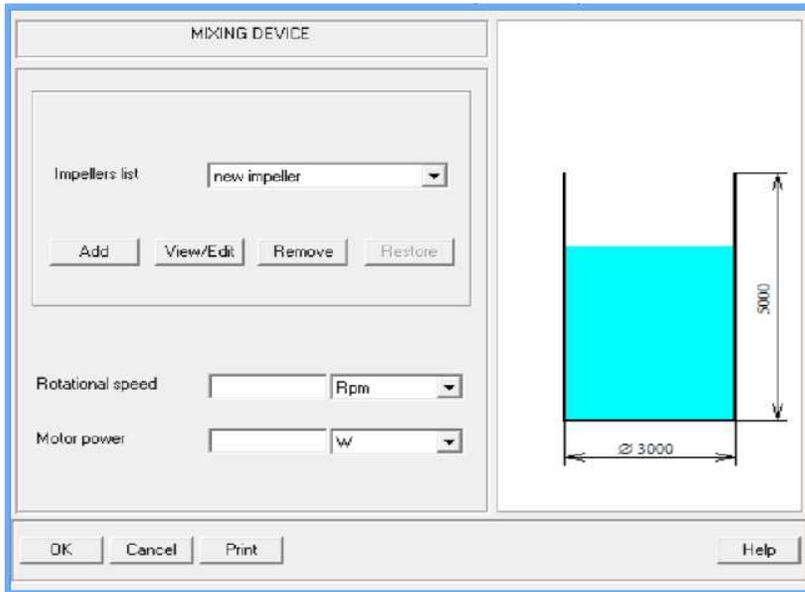

Figure 5. Mixing device input table.
**1.3. Mixing device.** After these data are entered, the **Mixing device** input table appears (Figure 5).